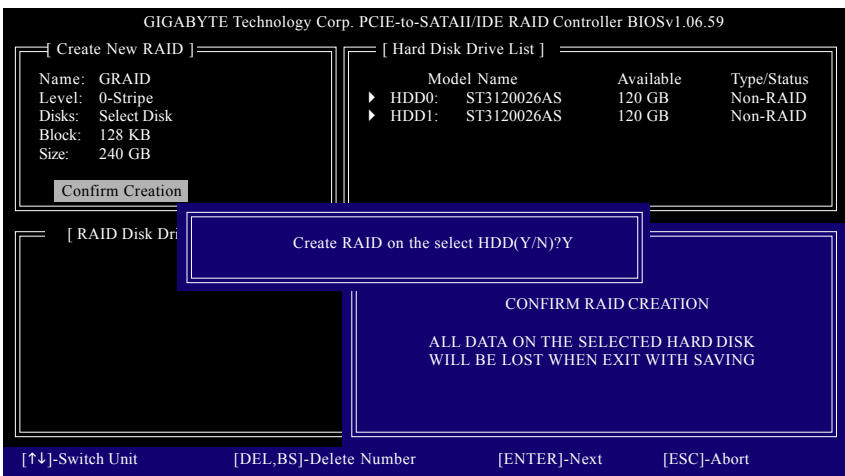

Figure 8
6. **Confirm Creation:** After all of the items above are configured, the selection bar automatically jumps to the **Confirm Creation** item. Press <Enter>. When prompted to confirm your selection (Figure 8), press <Y> to confirm or <N> to abort.